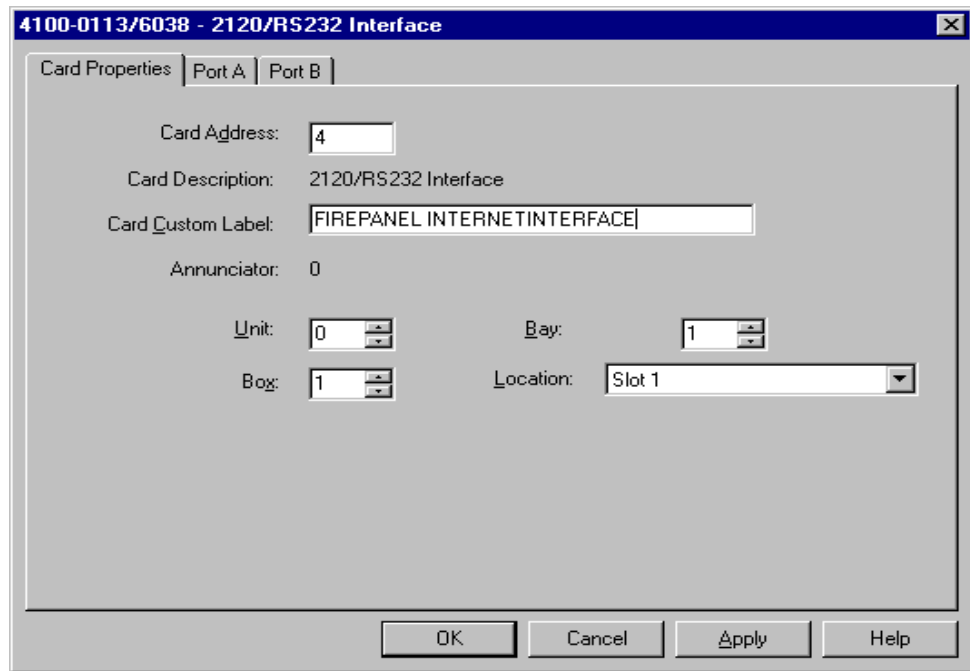

Figure 18. Custom Label Information
5. Double click the 2120/RS232 Interface Card (see Figure 18).
6. Type in Custom Label information as shown in Figure 18.